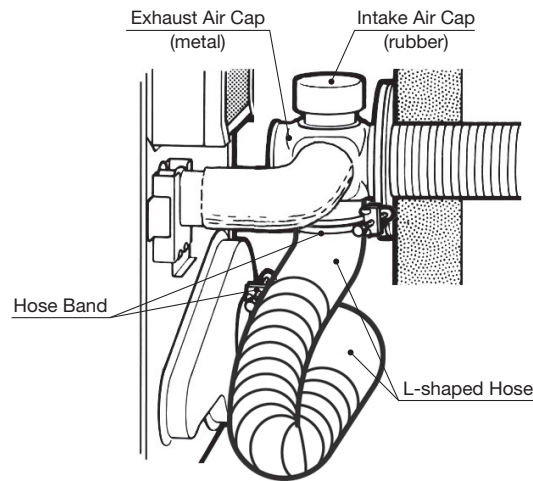

Fig. 10
6. Cut the inlet hose for desired length if necessary. Attach the L-shaped hose to each end of the inlet hose and attach the L-shaped hose to the intake opening of the flue pipe. Secure the L-shaped hose to the intake opening with the hose band. Plug the unused exhaust (metal cap) and intake (rubber cap) opening with the caps provided with the heater. Make sure the caps fit tightly onto the opening (See Fig. 10).